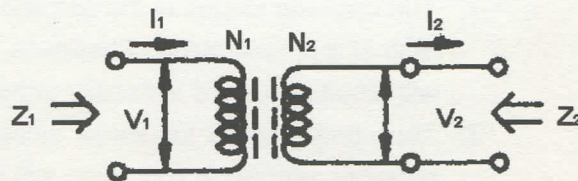

Fig 1
1) The basic characteristics of transformer are shown in Fig 1.
- ① Turn number is directly proportional to voltage: